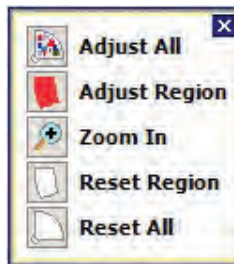

Figure 7.10 – Sensitivity Window
- 2 Click anywhere within the sensor's view and the Sensitivity window will appear (see Figure 7.10).